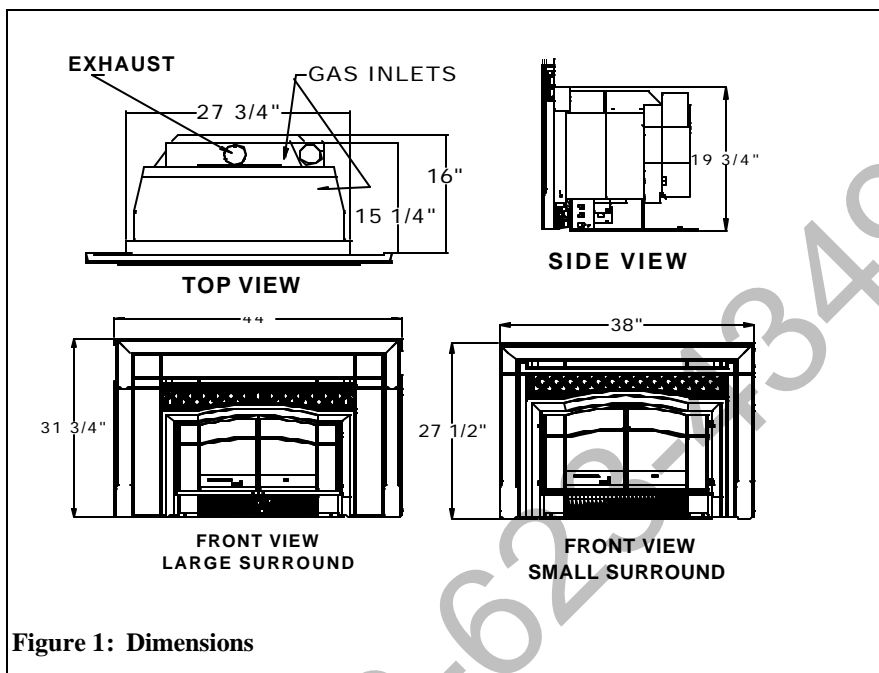

Figure 1: Dimensions
-If necessary, remove the smoke shelf, internal baffles, screen, masonry lining and doors. (see the Dimensions in *Figure 1*).